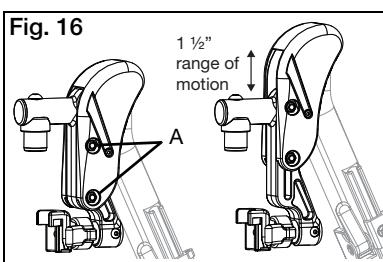

Fig. 16
1. Using two 10mm socket wrenches, loosen the two nuts (Fig. 16:A) on the cover.
3. Retighten the two nuts (Fig. 16:A) after desired height is attained.